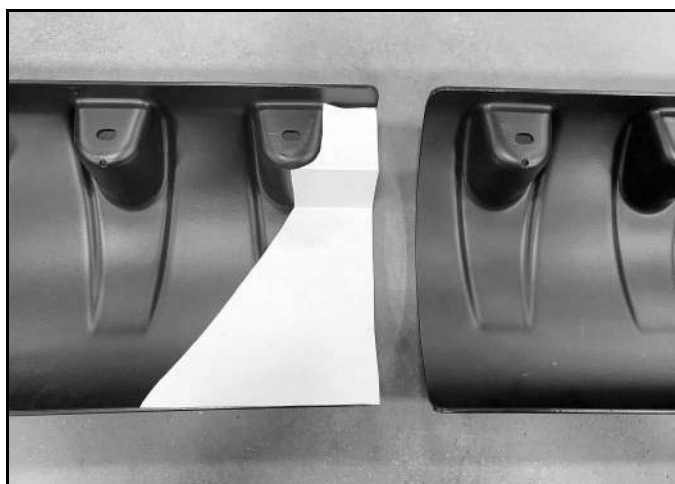

Figure 1
4. Lay templet onto 1st deflector as shown in Figure 1. Draw a line along edge of templet.